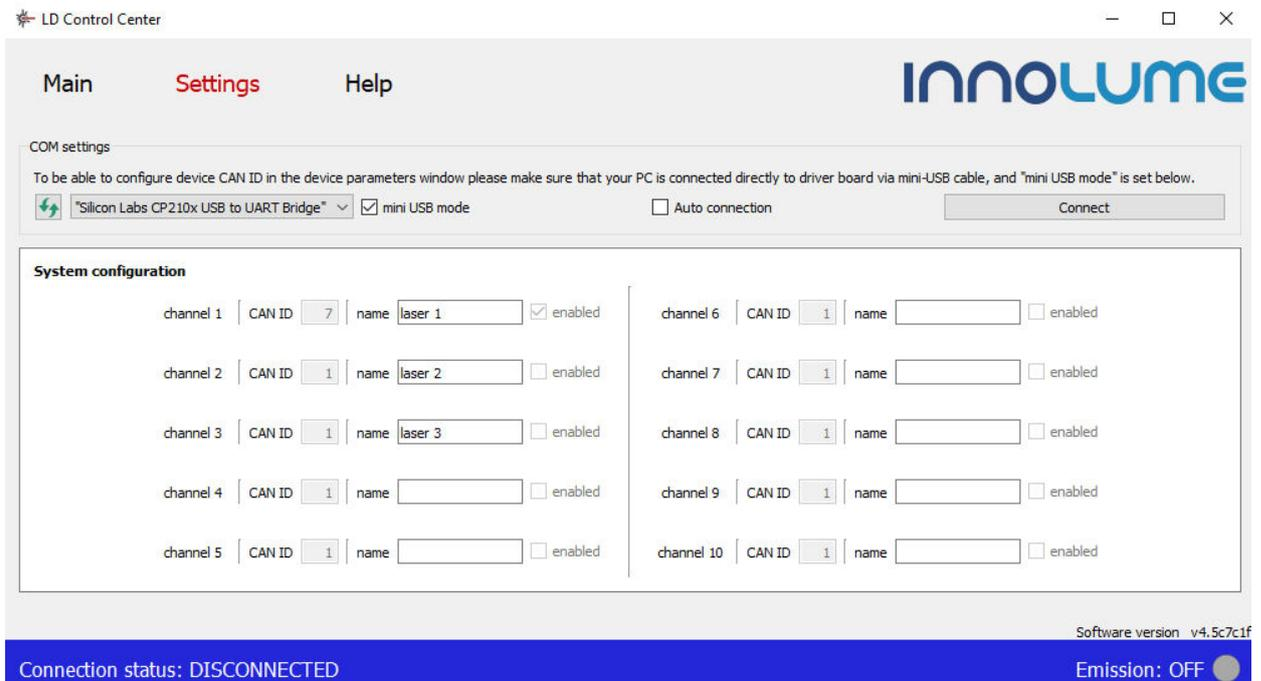

Figure 1: The system configuration menu.
5. Click “Settings” to enter the program configuration menu (fig. 1).